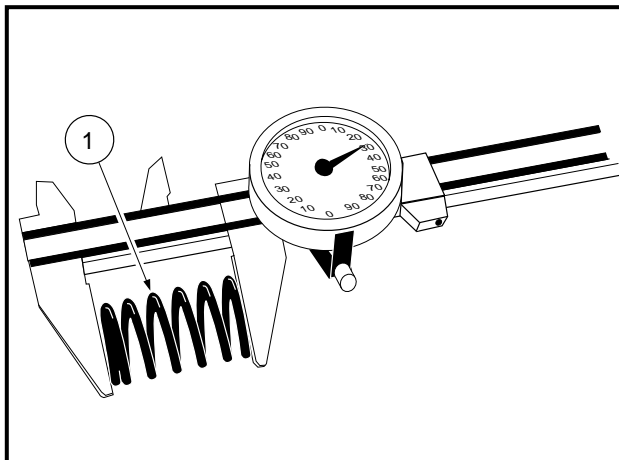

Figure 13-31 Measure Free Length of Spring
1. Inspect the valve springs (1) for pitting, cracks, corrosion, and burrs. Replace the springs if necessary (**Figure 13-31**).
2. Measure the free length of the spring. If the measurement is less than the service limit of 1.29 inch (32.77 mm), replace the spring (**Figure 13-31, Page 13-18**).